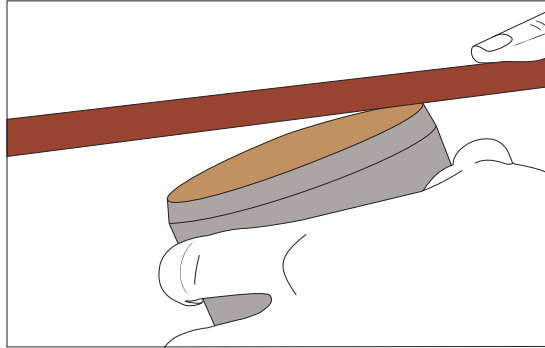

Figure 3 Cut protruding material level with top of sample ring
2. Remove the cover on the cutting side of the sample ring. If soil material is protruding above the top of the sample ring, cut off the protruding material until the surface is flush (planar) with the top of the sample ring. Cut a little bit at a time along the edge of the sample ring, and be careful not to smudge the surface and close the pores (Figure 3).